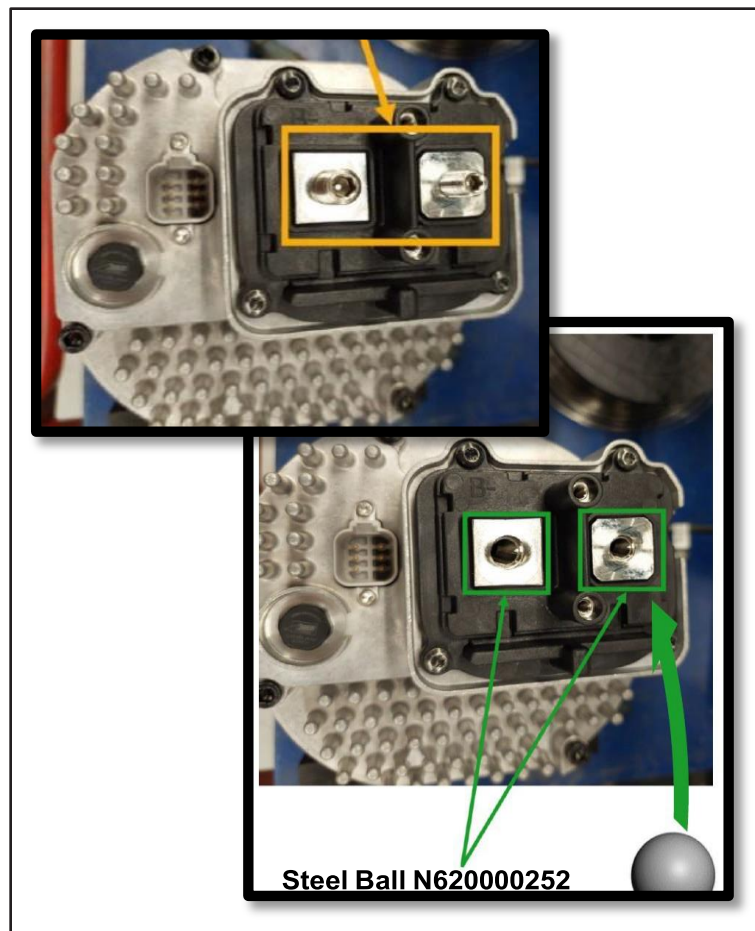

Figure 7 - Installation of Steel Ball
- 1.9. Unscrew the stud using a 5mm Allen key and Insert just one steel ball N620000252 and reinstall the studs. Measure the length of the studs and make sure that they are within specifications (see figure 7).